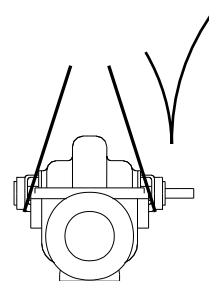

Fig. 1 KP bare shaft pumps, correct lifting points
2. Install a lifting strap on each side of the bearing housing. See fig. 1.